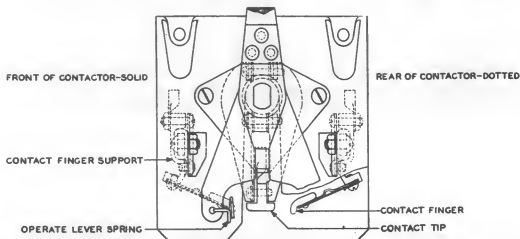

Fig. 8 - Rotary-type Contactor Mechanism on Form KI Starter
5. To revise Fig. 8, 9, and 10.